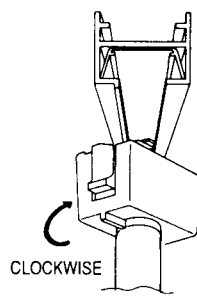
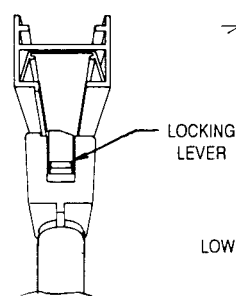

FIG. 2
FIG. 3
2. Rotate the TOP FITTING 90° clockwise, (See Fig. 2), until LOCKING LEVER snaps and locks in place. (See Fig. 3.) Do not rotate adapter from LOWER FITTING.